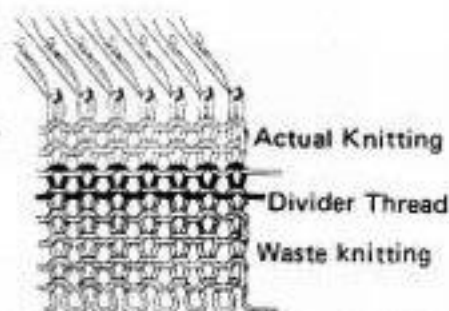

Fig.42
- (f) After completing the piece of knitting, pull out the divider thread. This will separate the waste knitting piece from the main piece, leaving a neat cast-on edge. (Fig.42)